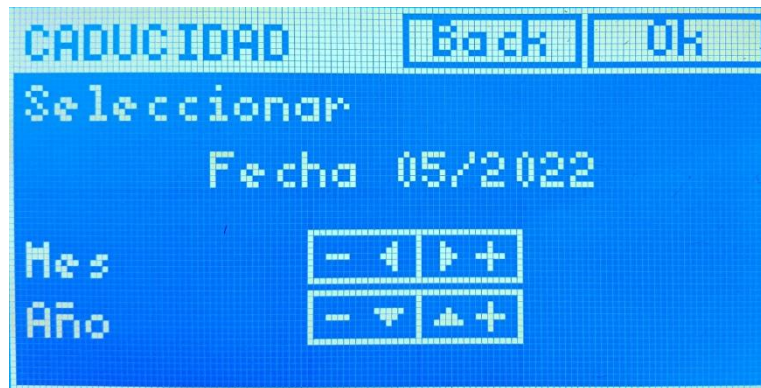

Figure 13- Expiration Screen
8. Enter the expiration date of the pills with the ↑, ↓, →, ← buttons (Figure 13) and press the **Ok button** to advance to the next screen.